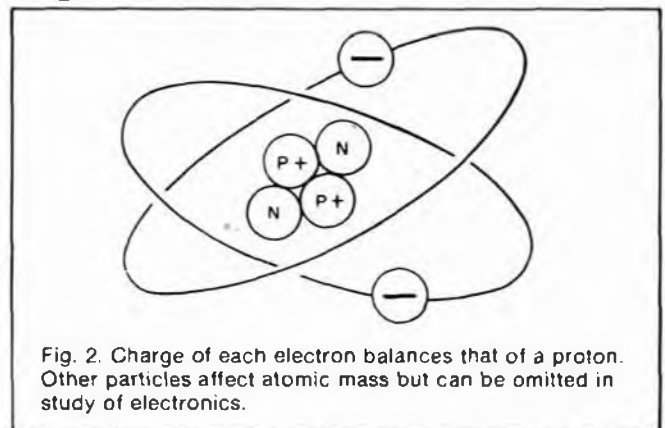

Fig. 2. Charge of each electron balances that of a proton. Other particles affect atomic mass but can be omitted in study of electronics.
**From Minus to Plus.** With the discovery of the electron, it was still over a dozen years into the 20th century before a graphic conception of the atom evolved. Since the atom is electrically neutral and electrons are negatively charged, the existence of positively charged particles was a necessity, and the existence of a *proton* was postulated. Eventually the nuclear model of the atom was evolved. Each atom was conceived to resemble a solar system in miniature. The nucleus—positively charged—is surrounded by a number of electrons revolving around it; the charges balance and the atom is electrically neutral (Fig. 2). Further research in the 20th century has gone on to reveal more elementary particles than you can shake a stick at: neutrons, positrons, neutrinos, mesons, quarks, and more. The number continues to grow and yet the ultimate nature of matter remains a riddle. But, in a discussion of basic electricity, only the electron and